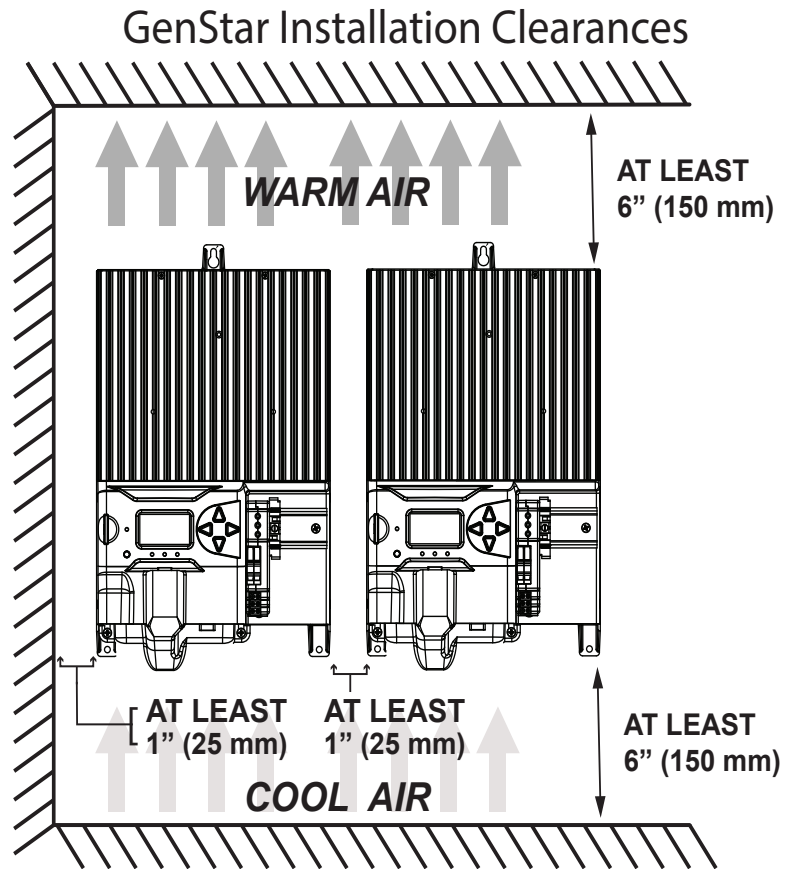

Figure 3-1. Required mounting clearance for proper air flow
Refer to Figures 3-1 and 3-2.
B. Verify that there is at least 6" (150mm) of space above and below the unit, and at least 3" (75 mm) around the heatsink - see Figure 3-1.